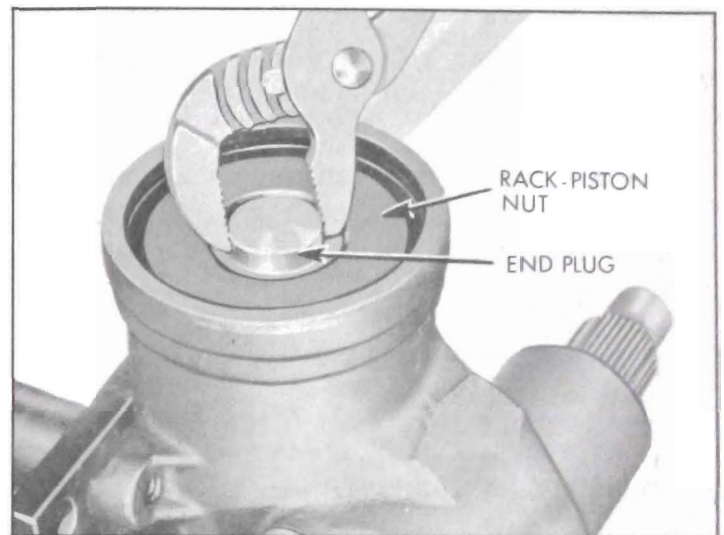

Figure 8-48—Removing Rack-Piston Nut End Plug
6. Remove rack-piston nut end plug retaining ring using No. 3 Truarc Pliers J-4245. Pull out rack-piston end plug with water pump pliers. See Figure 8-48.